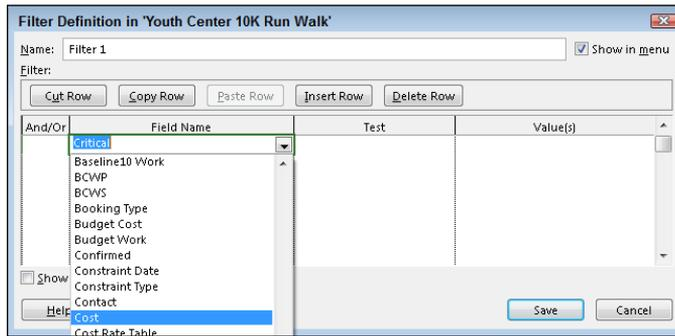

Figure 11-5:
5. Click the first line of the **Field Name** column and then click the down arrow that appears to display the list of choices, as shown in **Figure 11-5**.